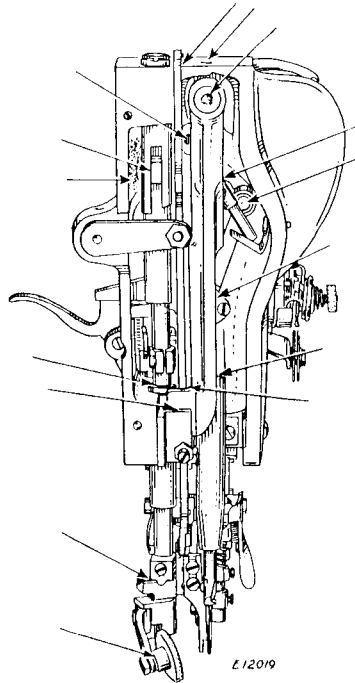

Fig. 20. End View of Machine,
Loosen the thumb screw in the upper end of the face plate, pull out the lower end of the face plate over the position pin, swing up the plate and tighten the thumb screw. Oil the wicks and bearings which are thus uncovered, as shown in Fig. 20, then replace the face plate and tighten the thumb screw.
The sidewise adjustment of the knife is obtained by loosening the lock screw (H, Fig. 20) at the back of the knife bar and moving the knife holder to the right or left as may be required, after which the lock screw (H) should be firmly tightened.